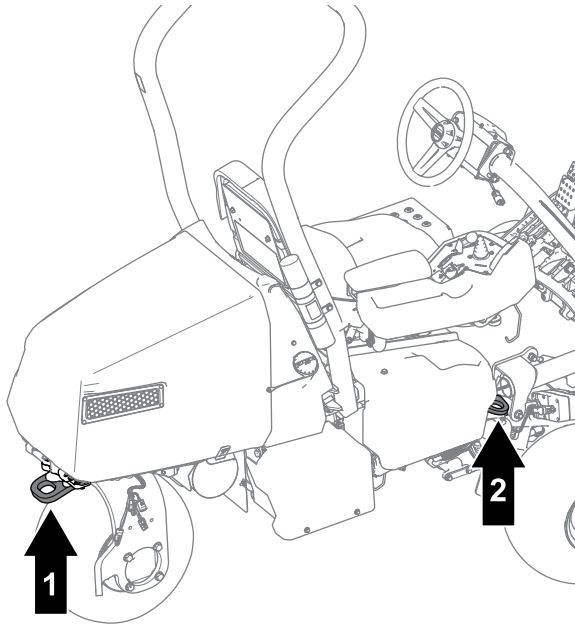

Figure 37
- Tie the machine down securely using straps, chains, cable, or ropes. Both front and rear straps should be directed down and outward from the machine (Figure 37).